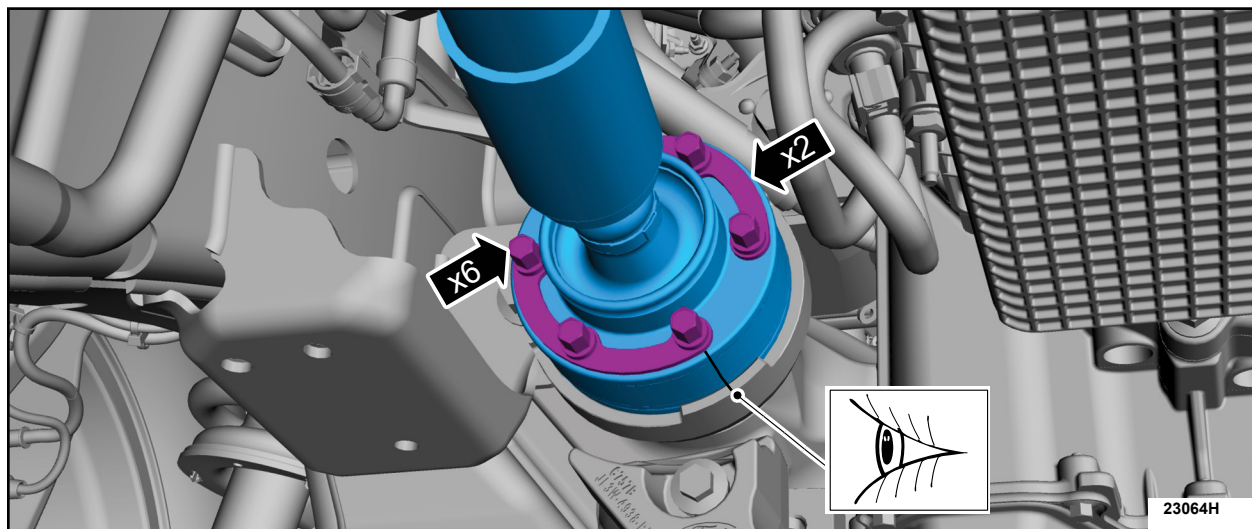

FIGURE 8
9. Align the index-mark on the driveshaft and pinion flange and install the front driveshaft CV joint-to-pinion cup retaining straps and bolts. See Figure 8.